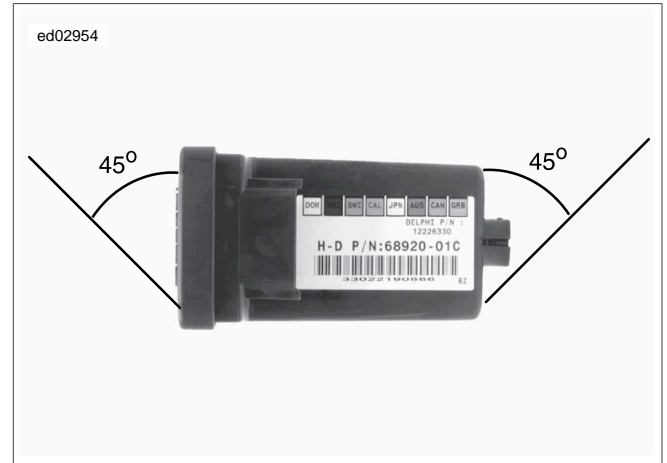

Figure E-18. Tilting TSM/HFSM
- a. See Figure E-18. Position TSM/TSSM in same orientation it is mounted on vehicle. Turn Ignition Switch on. Turn 4-way flashers on by depressing both left and right turn signal switches simultaneously. Turn Ignition Switch off. The 4-way flashers should continue to flash.